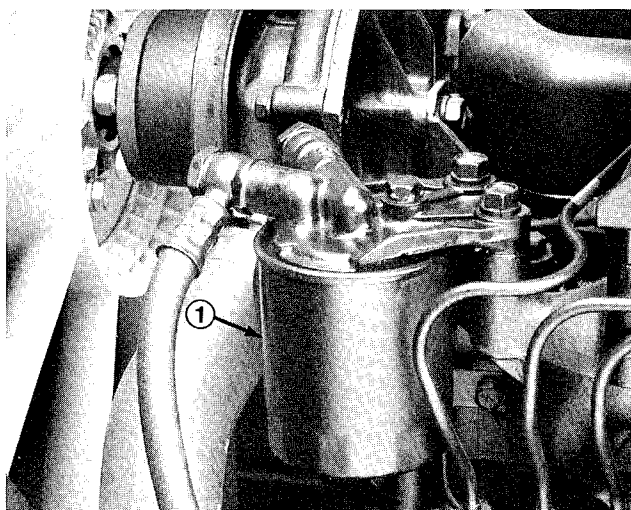

Figure 38
3. Every 1000 hours operation, or yearly, replace the engine fuel filter (Fig. 38) – left front side of engine – and drain water from the fuel tank. Apply clean fuel oil to the filter O-ring. Use hands only to install and tighten filter.